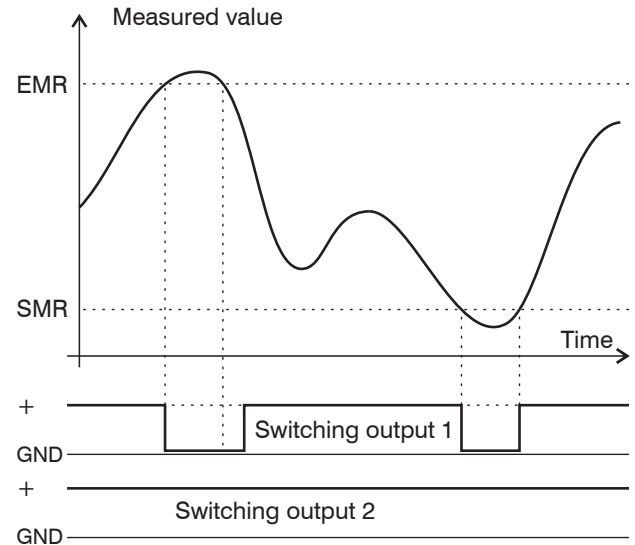

Fig. 18: Signal sequence for the switching outputs in the operation mode „Sync error“ und „Trigger error“
- the measurement range, see Fig. 18 there is no object to be measured present, or